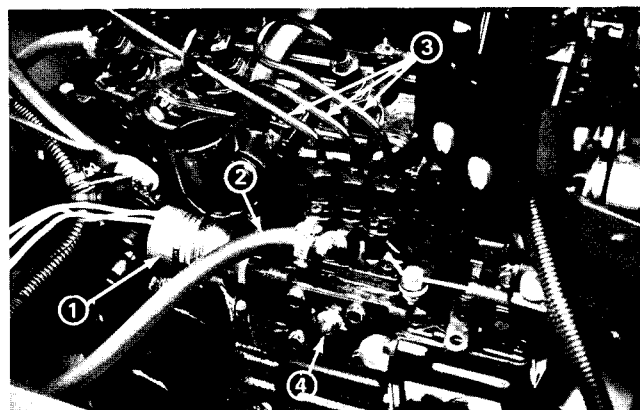

Figure 44
1. Remove the engine stop solenoid (Fig. 44). (See Replacing and/or Adjusting Engine Stop Solenoid in the External Engine Component Repair section of this chapter.)